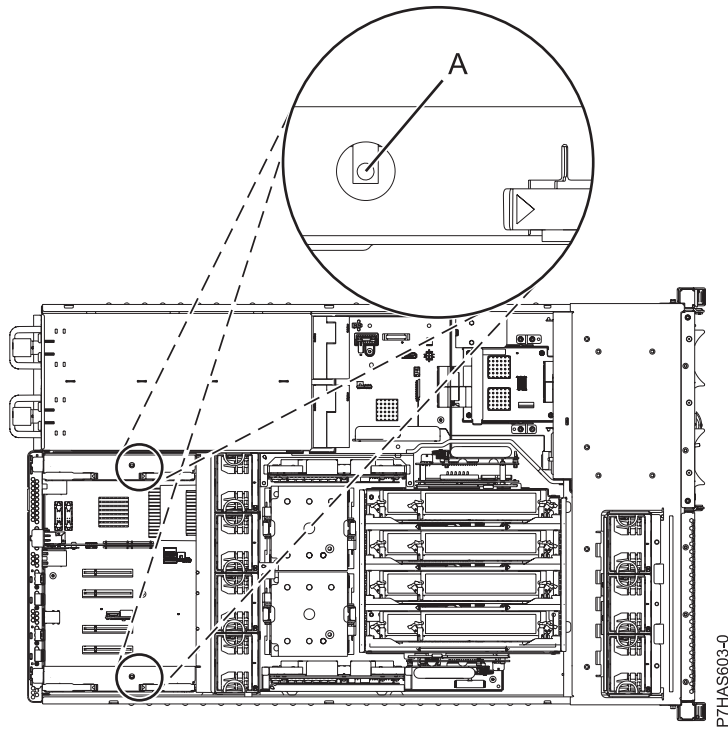

Figure 4. GX adapter LEDs
Figure 4 on page 6 shows the LEDs (A) associated with the GX adapters.